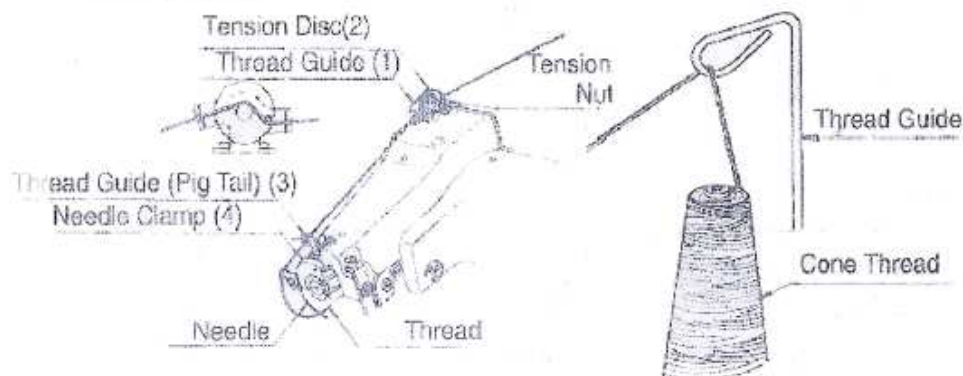

Fig.9
A. When using sewing thread from a cone, place it over plastic cup on thread stand (Fig. 9).
C. For correct threading of machine, follow carefully course of thread as shown on Fig. 9.
When reaching to thread tension device, enter thread first in rear eye of thread guide (1). Then, lead thread between the two tension discs (2) as per Fig. 9. Now enter it from behind through the front eye of thread guide. Lead thread forward to front of machine. Enter thread into thread guide (3), and eyelet of needle clamp (4).